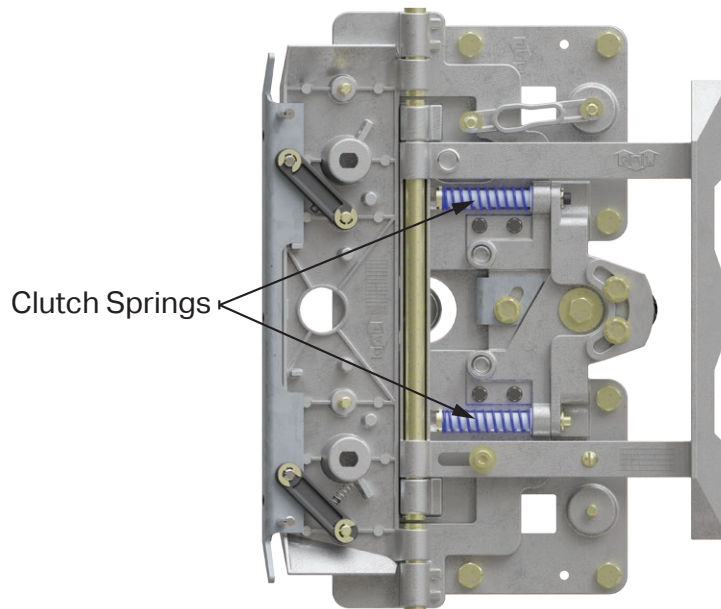

Figure 6: Side-Opening Clutch Springs
1. If installing a clutch on a side-opening car door, ensure that the clutch springs (see **Figure 6**) are **BLUE**. If they are **RED**, please contact GAL for assistance.